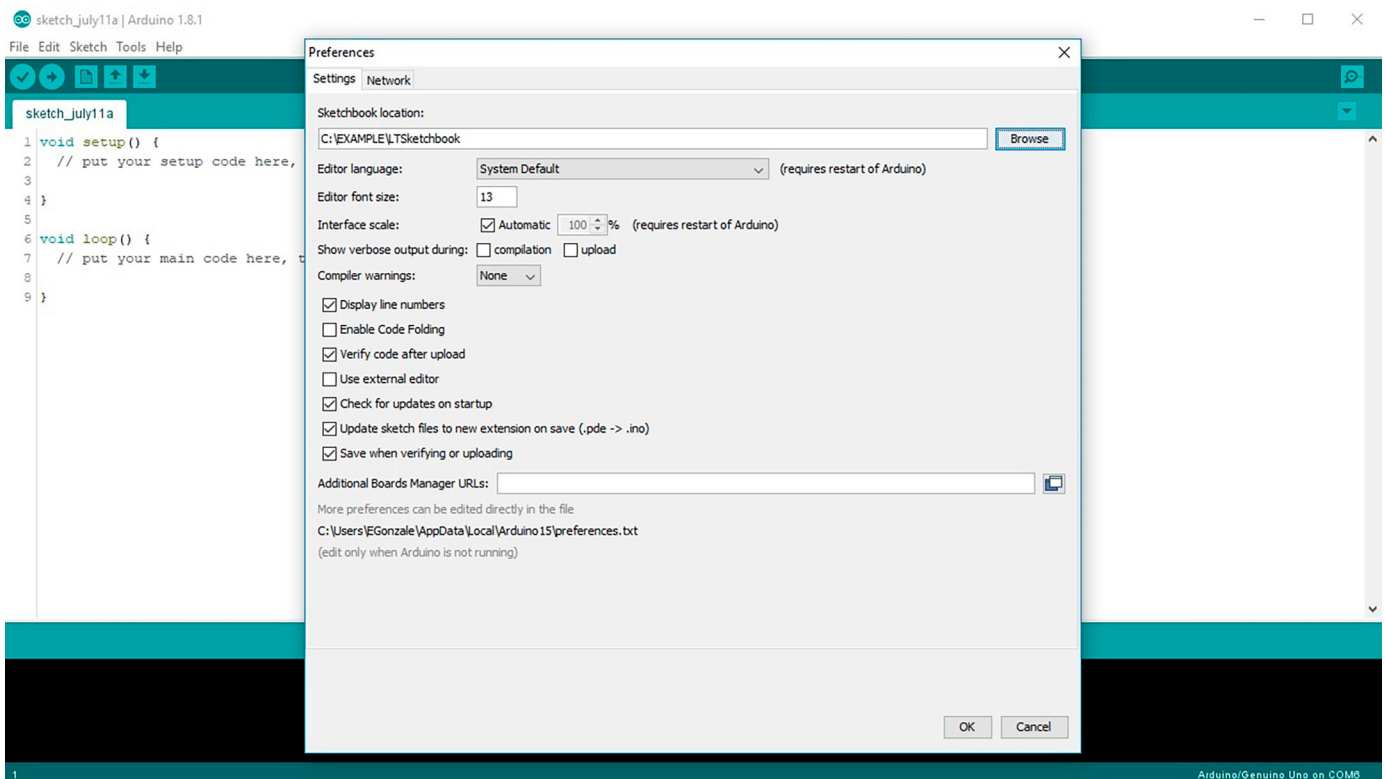

Figure 7. Sketchbook Location Path
2. Set the Arduino IDE to open BMS Sketchbooks. From within the Arduino IDE, click on **File** menu select **Preferences**. Then under **Sketchbook location:** select Browse and locate the path to the extracted **LTSketchbook.zip** file that was downloaded (see Figure 7).